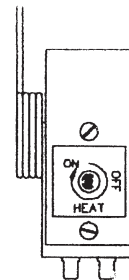

Figure 5
- 2) Locate thermostat mounted on tank. See Figure 5.